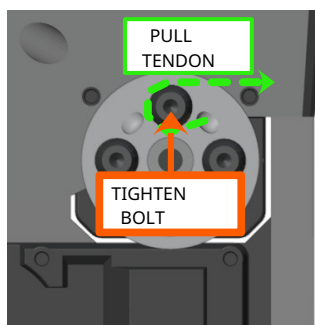
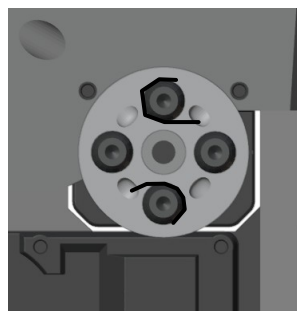

Figure 5.68: Rotation around bolt
Figure 5.69: Tendon fixed under the bolt
7. Pull the flexion end of the tendon without moving the finger position and fix it to the top bolt with a clockwise rotation around it (figure 5.68). While holding the tendon pulled with a manual assembly plier, tighten the bolt well to lock the tendon (figure 5.68). The figure 5.69 shows the completed operation.